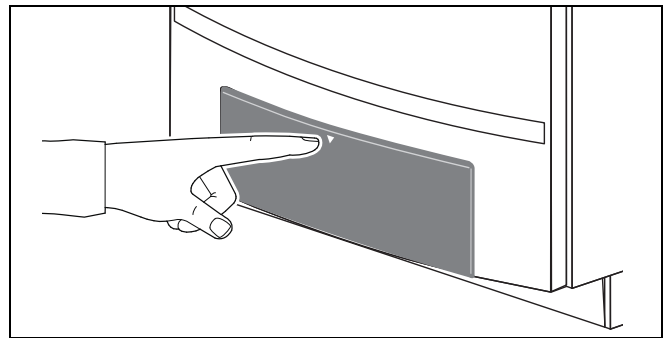

fig. 20 Opening the control panel
- Push on the control panel to open it (→ fig. 20).